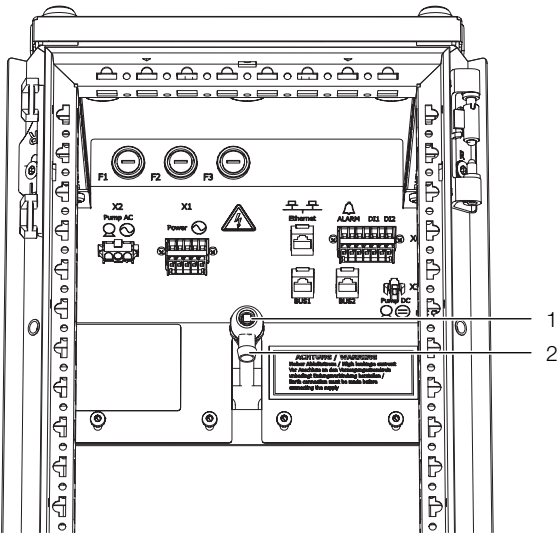

Fig. 86: Bleeding the air from the heat exchanger
- Connect the drainage hose, included with the accessories, on the top at the vent valve on the plug connector (fig. 86, item 2).
- Open the vent valve (fig. 86, item 1) with the square key supplied.